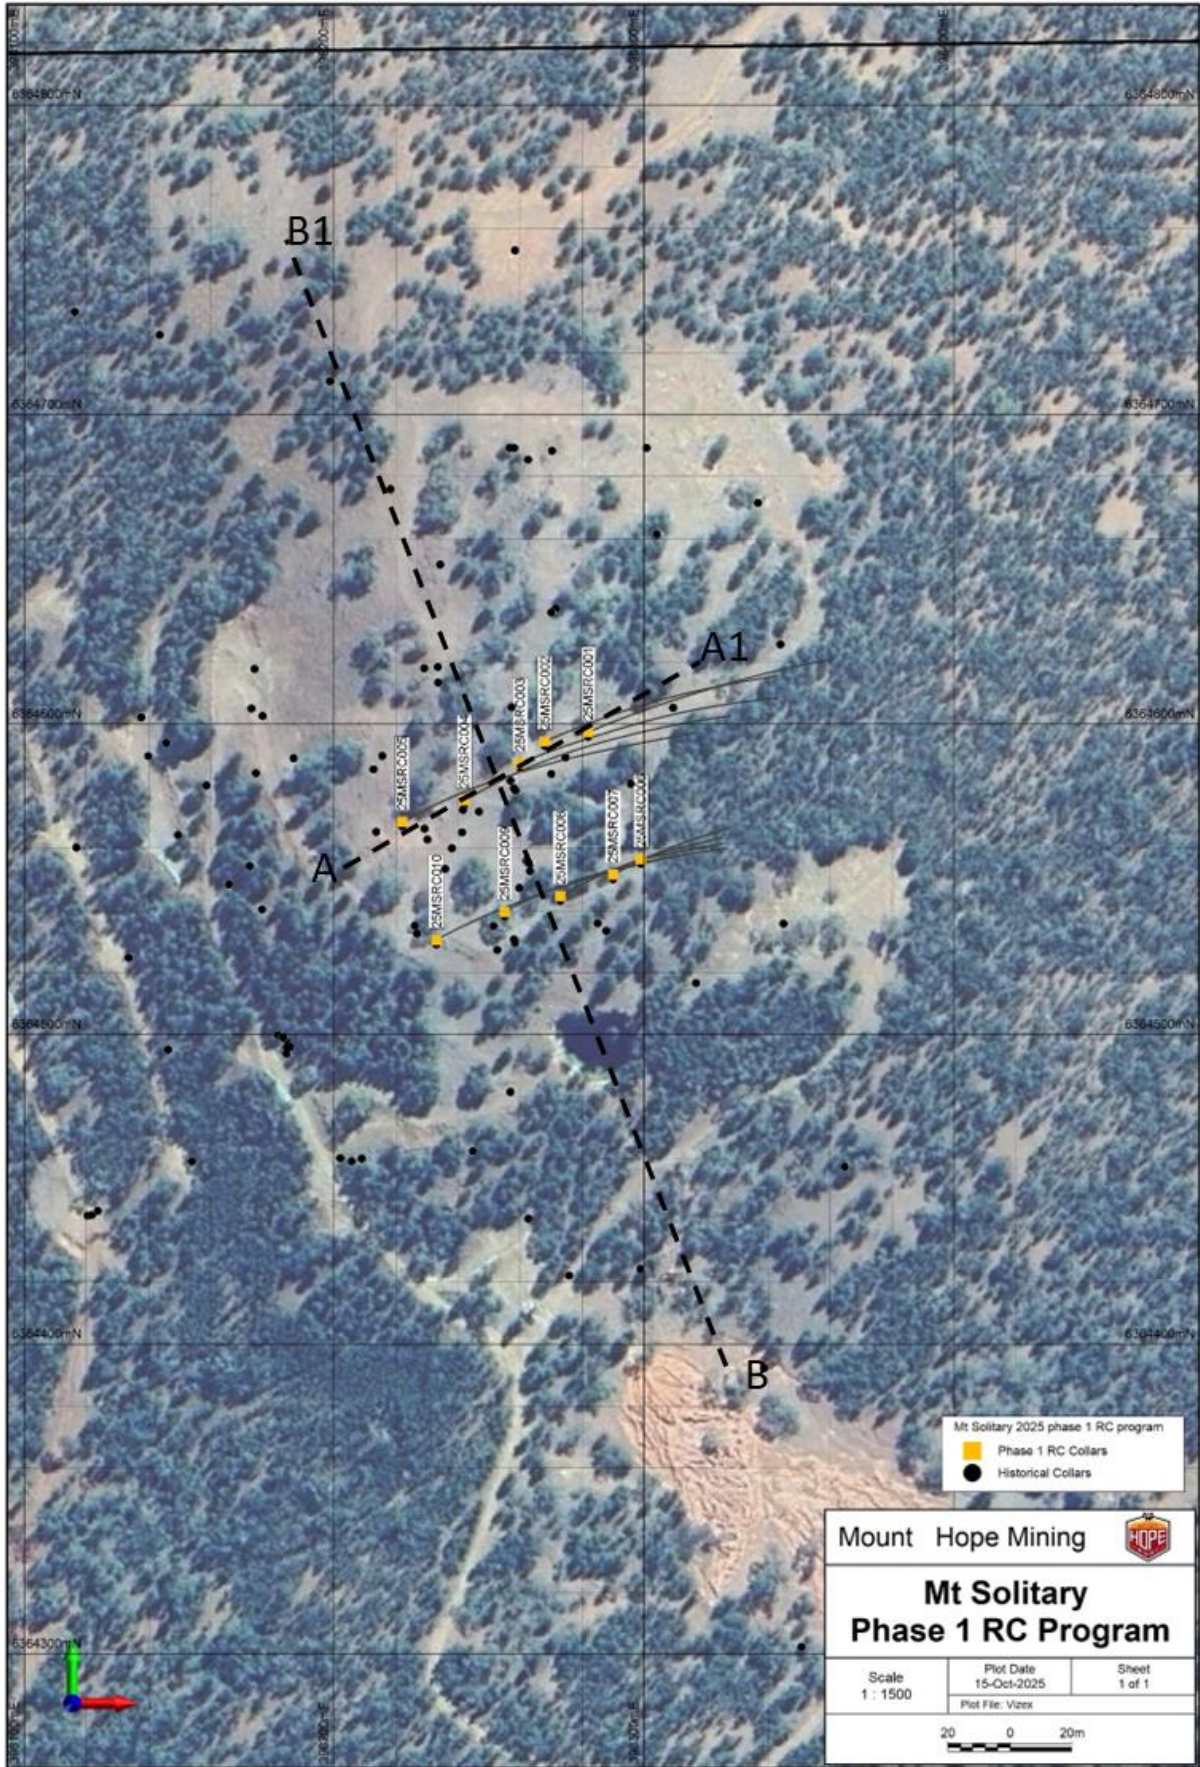

Figure 1: Mt Solitary 2025 phase 1 RC program
MHM reports assay results from the recently completed **Reverse Circulation (RC)** drill program completed at the **Mt Solitary** prospect (Figure 1), located 3km east of the historical Mt Hope copper mine in the prolific Cobar Basin in New South Wales.